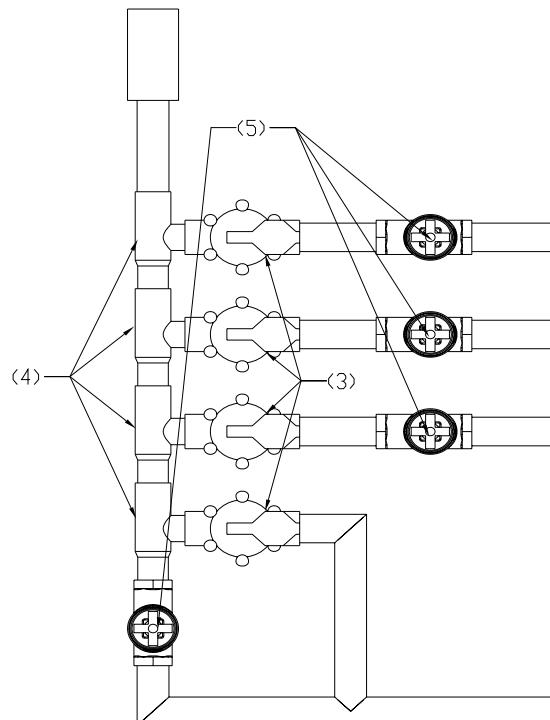

FIGURE 8
1. ADDITIONAL GLOBE VALVES: To help control the height of each individual zone it is required that a 1" Globe Valve (5) be placed after each 1" HPV Valve (3) as shown in **FIGURE 8**. This allows the WetDek to be customized even more. Water heights can be set to the exact same level or setup on a tiered system that separates each zone by measured increments.